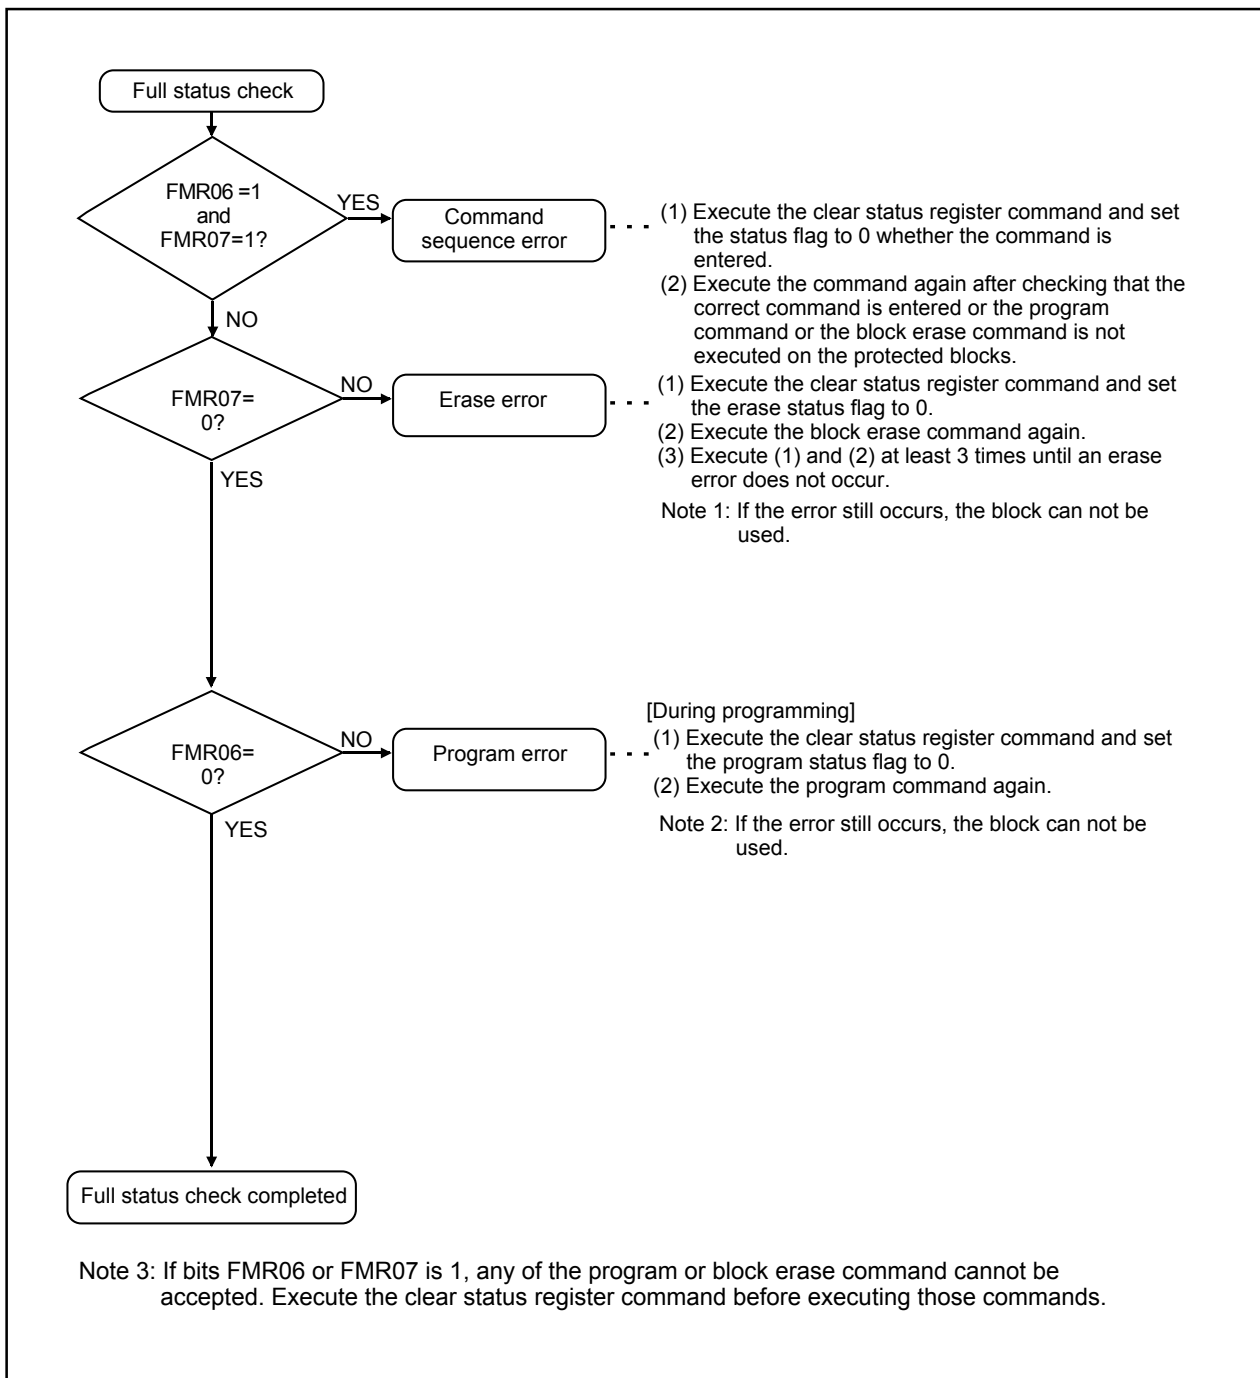

Figure 20.14 Full Status Check and Handling Procedure for Each Error
**Table 20.7** lists errors and FMR0 register state. **Figure 20.14** shows a flow chart of the full status check and handling procedure for each error.